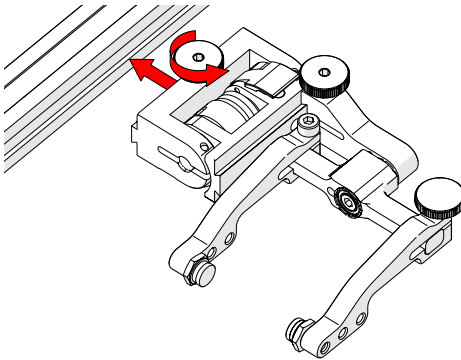

Fig. 146 - Attach to frame bar
1. Rotate the probe holder adjustment knob and attach the probe holder to a frame bar (Fig. 146).